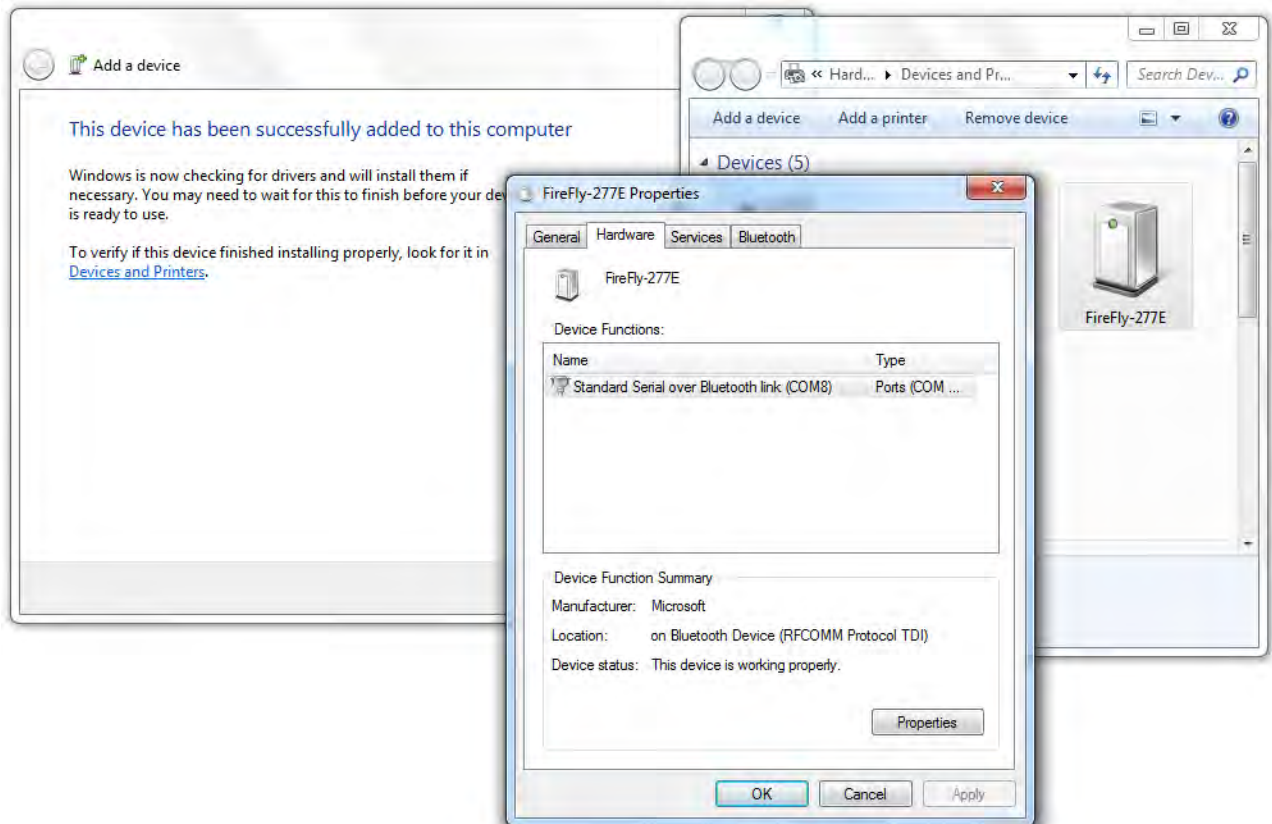

Figure 8-22. Bluetooth Mate settings (make a note of these somewhere)
5. Locate the FireFly/RN42 device in the list, and double-click it to bring up its properties. On the Hardware tab, you can see which COM port it is using, as shown in Figure 8-22. Make sure you remember this COM port, because you'll need to use it later in "Testing the Bluetooth Connection."